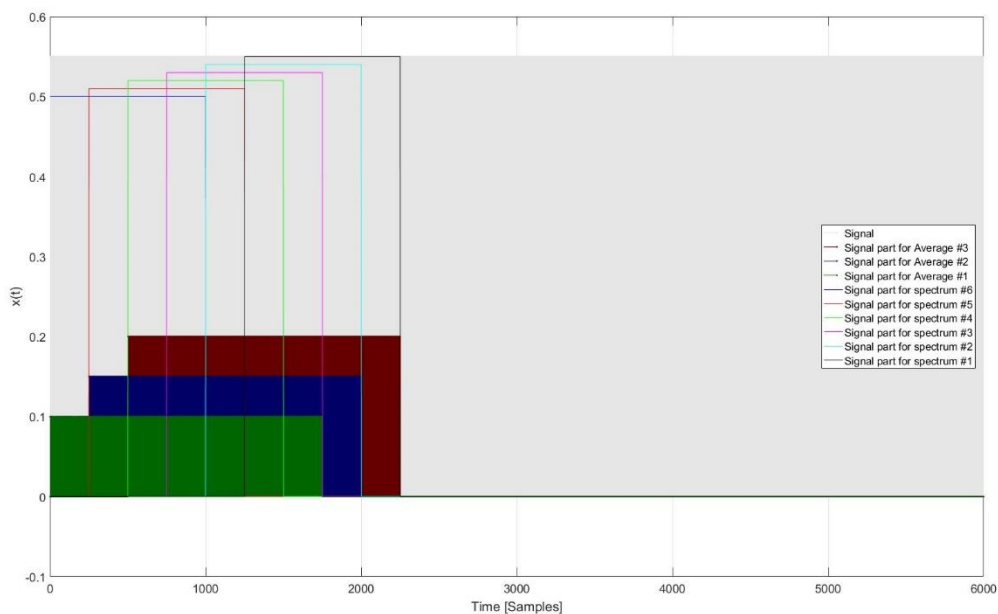

Figure 6-59: Decomposition of the time signal for a Periodogram with an average of 4 spectra and 75% overlapping
- Figure 6-59: periodogram with an average of 4 spectra and 75% overlapping (750 Samples)